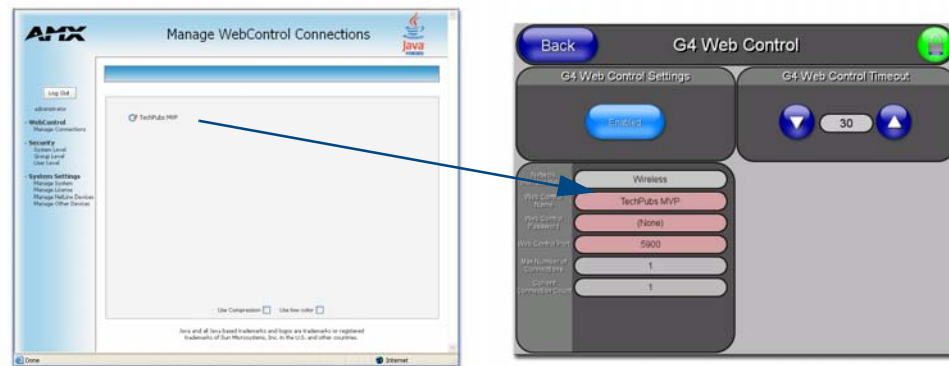

FIG. 52 Sample relationship between G4 Web Control and Manage WebControl Connections window
9. From the Web Name keyboard, enter a unique alpha-numeric string to identify this panel. This information is used by the NetLinx Security Web Server to display on-screen links to the panel. *The on-screen links use the IP Address of the panel and not the name for communication (FIG. 52).*